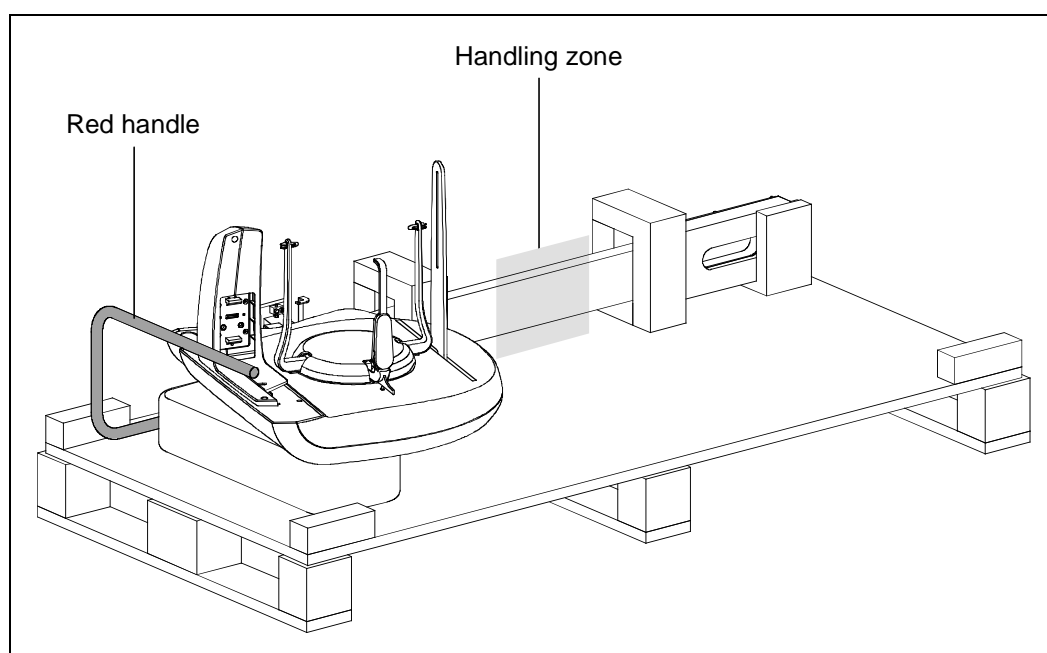

Figure 6-10
3. Lift the Ceph arm with the red handle and the handling zone and remove it from the package (Figure 6-10).